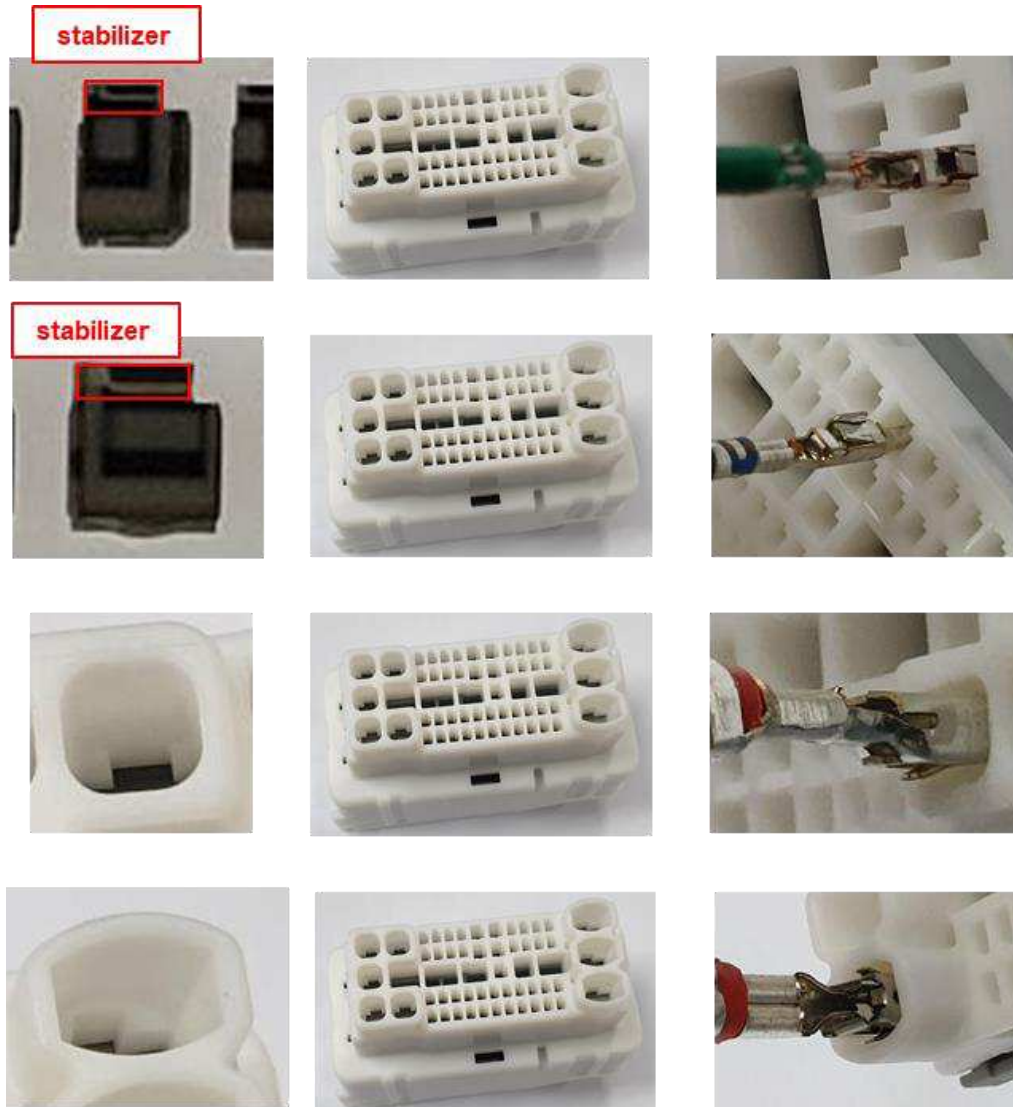

Fig. 9
- (2) Insert contacts into the each specific cavity with proper contact direction as shown in Fig. 9. Operation is completed when contact is latched and the insertion is stopped.
- (1) Confirm Retainers are in Pre-Lock condition. In case of Final Lock condition, it is necessary to move it to Pre-Lock condition (see Par. 5.3). It is impossible to extract the contacts under Final Lock condition.
- (2) Before extracting contacts, moving plate should be moved to down position. Release moving plate support by pushing supporters (4points), and then push down moving plate. (see Fig.9)